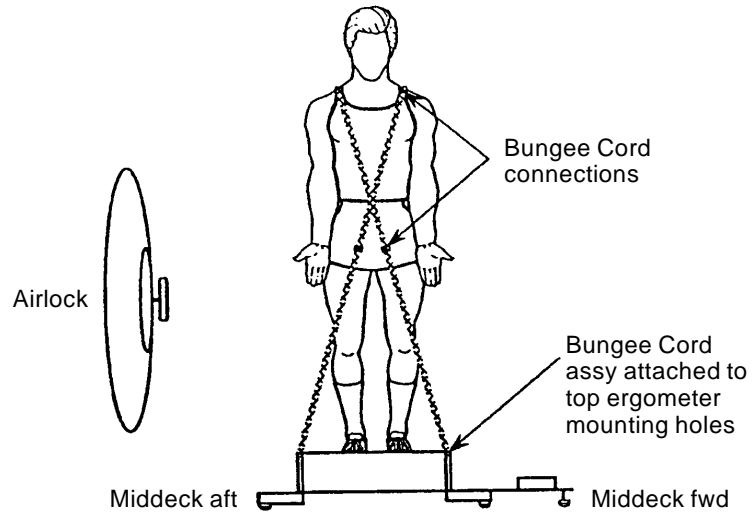

Figure 3-4.- Alternate exercise bungee attachments – front view (facing stbd).
4. Attach Bungees to opposite corners of Ergometer frame crossing Bungees over shoulders (figs 3-4, 3-5)